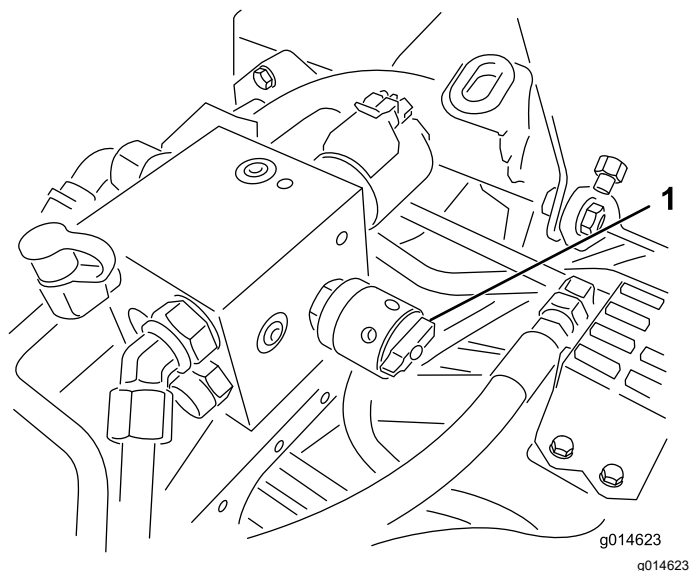

Figure 58
6. Rotate the reel-speed control to setting 1 (Figure 58).
4. Adjust the reel speed by rotating the knob (Figure 58) until the indicator arrows are in line with the number you determined in step 3.